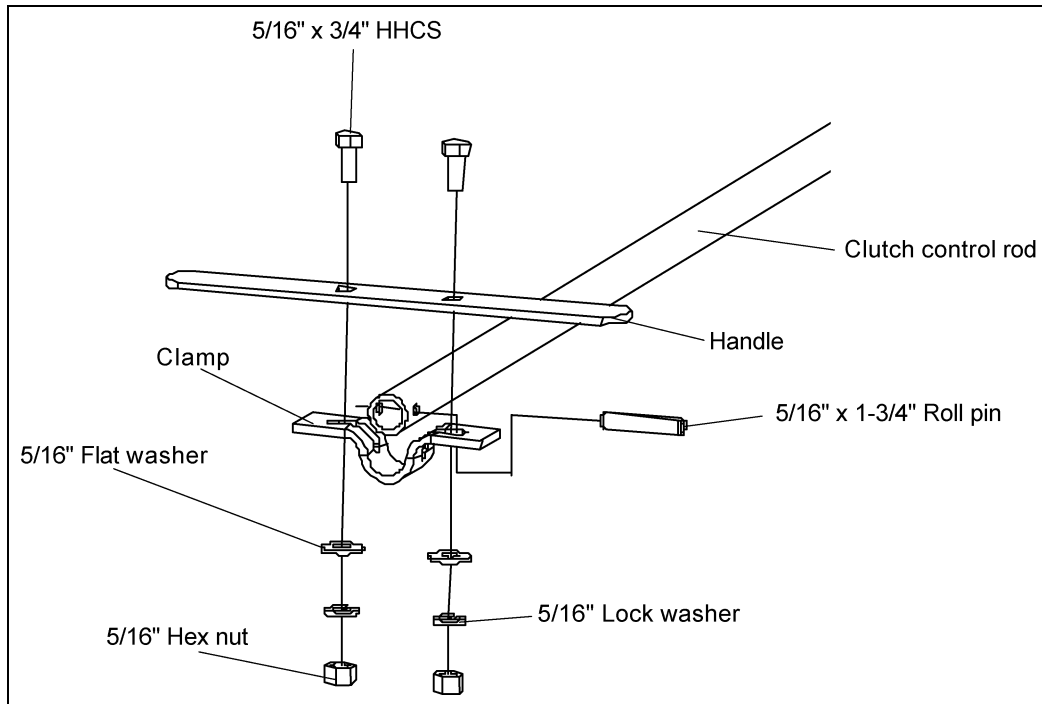

Figure 3S
- C. Attach clamp to control pipe by sliding 5/16" x 1-3/4" long roll pin through clamp and control pipe. Fasten clamp handle by using two 5/16" x 3/4" carriage bolts, flat washers, lock washers and nuts. Install nuts so they secure the 5/16" x 1-3/4" long roll pin in place. (See Figure 3S on Page 21.)